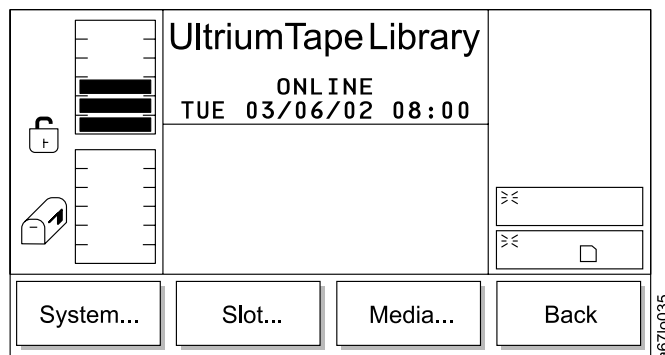

Figure 82. Library Submenu
- If **Library** is selected, the Library Submenu displays (see Figure 82).
- If **OK** is selected, the Library Submenu displays (see Figure 82 on page 92).
- If **Cancel** is selected, the Library Submenu displays (see Figure 82 on page 92).